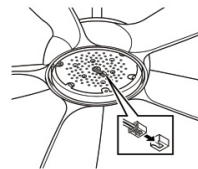

FIG.14
- 4.Plug together light kit wires from fan to LED light kit . (see Fig.14)